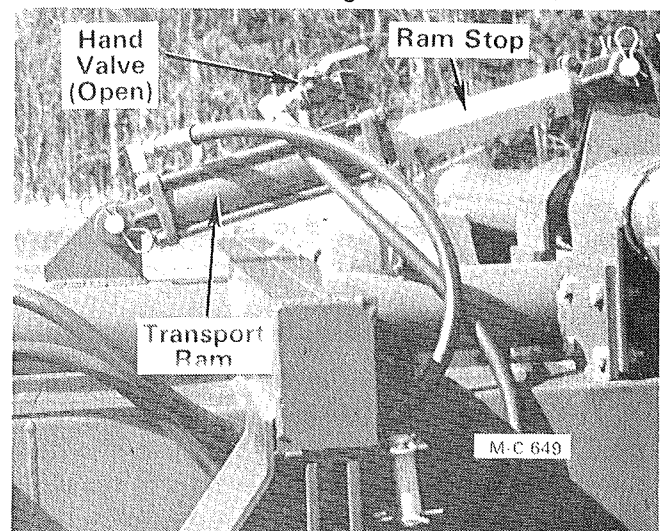
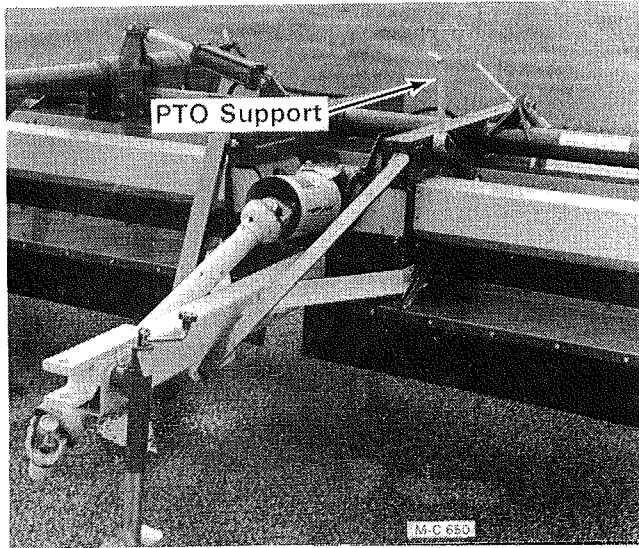

Figure 15A
Figure 15B
- Remove the transport ram stop, see Figure 15A. Remove the PTO shaft support from the pole, put it on the mount on the left side of the Shredder and run the hydraulic hoses through it, see Figure 15B.
- Remove the pole jack from the mount on the right side of the Shredder, put it on the pole and lower the jack to the ground, see Figure 15B. Start the tractor and lower the right side of the Shredder to the ground with the transport ram.